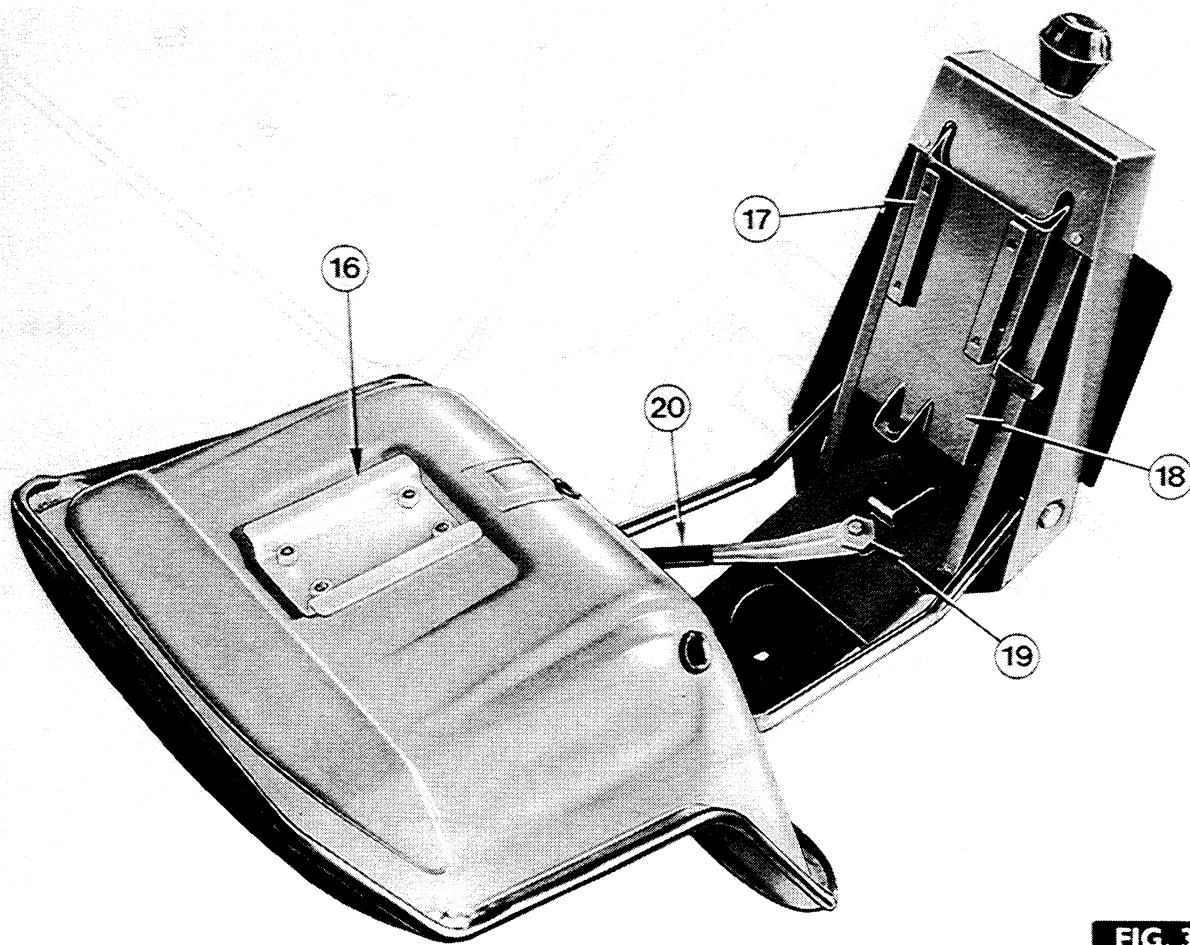
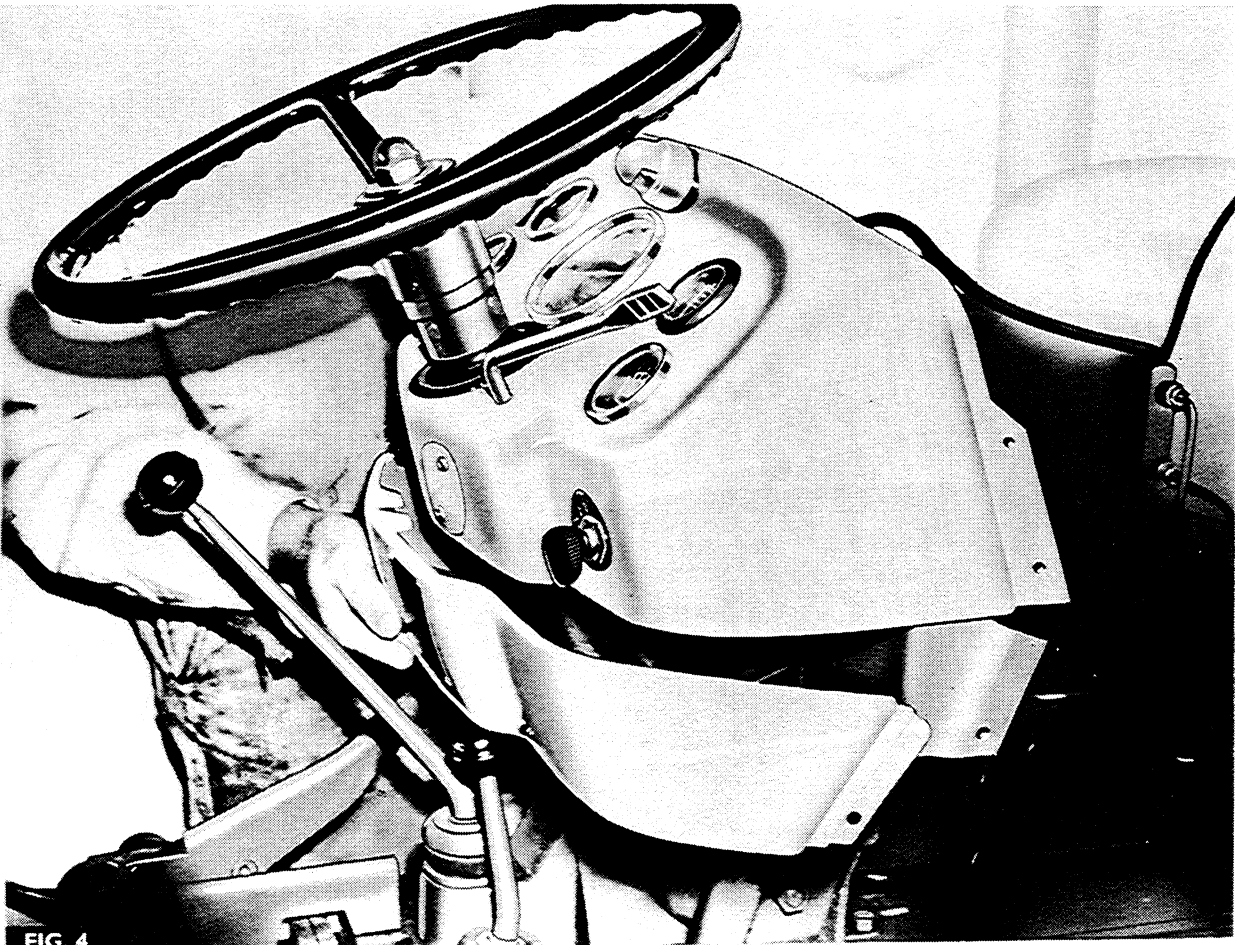

FIG. 3
FIG. 4
The seat pan is mounted on nylon bearings to the front of a tubular swing arm (1, Figure 2), the swing arm in turn, is mounted on nylon bushes and bolted to the seat pillar (2). A bracket (16, Figure 3) bolted to the seat backrest, locates on runners (17) with
A control lever (20, Figure 3) situated on the bottom of the seat frame allows the seat to be locked in any position on the seat riser. With the lever in the central position, the seat can be moved on its runners, along the riser, giving fore, aft and height adjustment. The seat is locked in the selected position by moving the lever to the right.
2. Lift the back of the seat pan to disconnect it from its runners (17) on the channel section plate (18) in the seat pillar (2).
3. Remove the four nuts and washers (14), bearing caps (12), and nylon bearings securing the seat pan to the tubular swing arm (1) and lift off the seat pan.
5. Unscrew the self tapping screws retaining the top cover (13) and control knob to the seat pillar and lift off the cover complete with control knob. Remove the retaining circlip beneath the top cover, to detach the knob.
6. Lift the base of the channel section plate as shown in Figure 4, to free the nylon rollers (3, Figure 2) from their tracks (4) on the seat pillar.
7. Remove the snap rings and washers retaining the spring loops to the spring adjuster (6) and remove the adjuster.
8. Remove the snap rings retaining the pin (8) to the bottom of the channel section plate and withdraw the pin. The nylon spacers (9) and piston end of shock absorber (10) can now be removed.
10. Remove the bolts (15) securing the tubular swing arm and nylon bushes to the seat pillar.
11. Remove the bolt (19, Figure 3) securing the seat locking lever (20) to the seat and lift off the lever. The large bolt beneath the locking lever can now be removed to release the locking plate, situated beneath the top face of the seat riser.
3. Fig. 4. Remove the two bolts and washers securing the lower instrument panel and release the panel from the instrument panel as shown.
2. Fig. 4. Refit the lower panel and secure with the two bolts and washers.